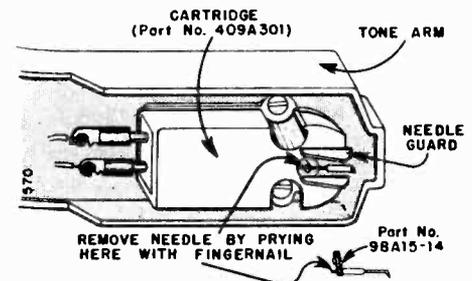

Figure 11. Cartridge 409A301 and Needle Detail.
In models having cartridge (27), part number 409A301, replace the needle (28), part number 98A15-14, by prying downward on the back edge of the needle. Insert the new needle by pressing it into the cartridge. See figure 11.